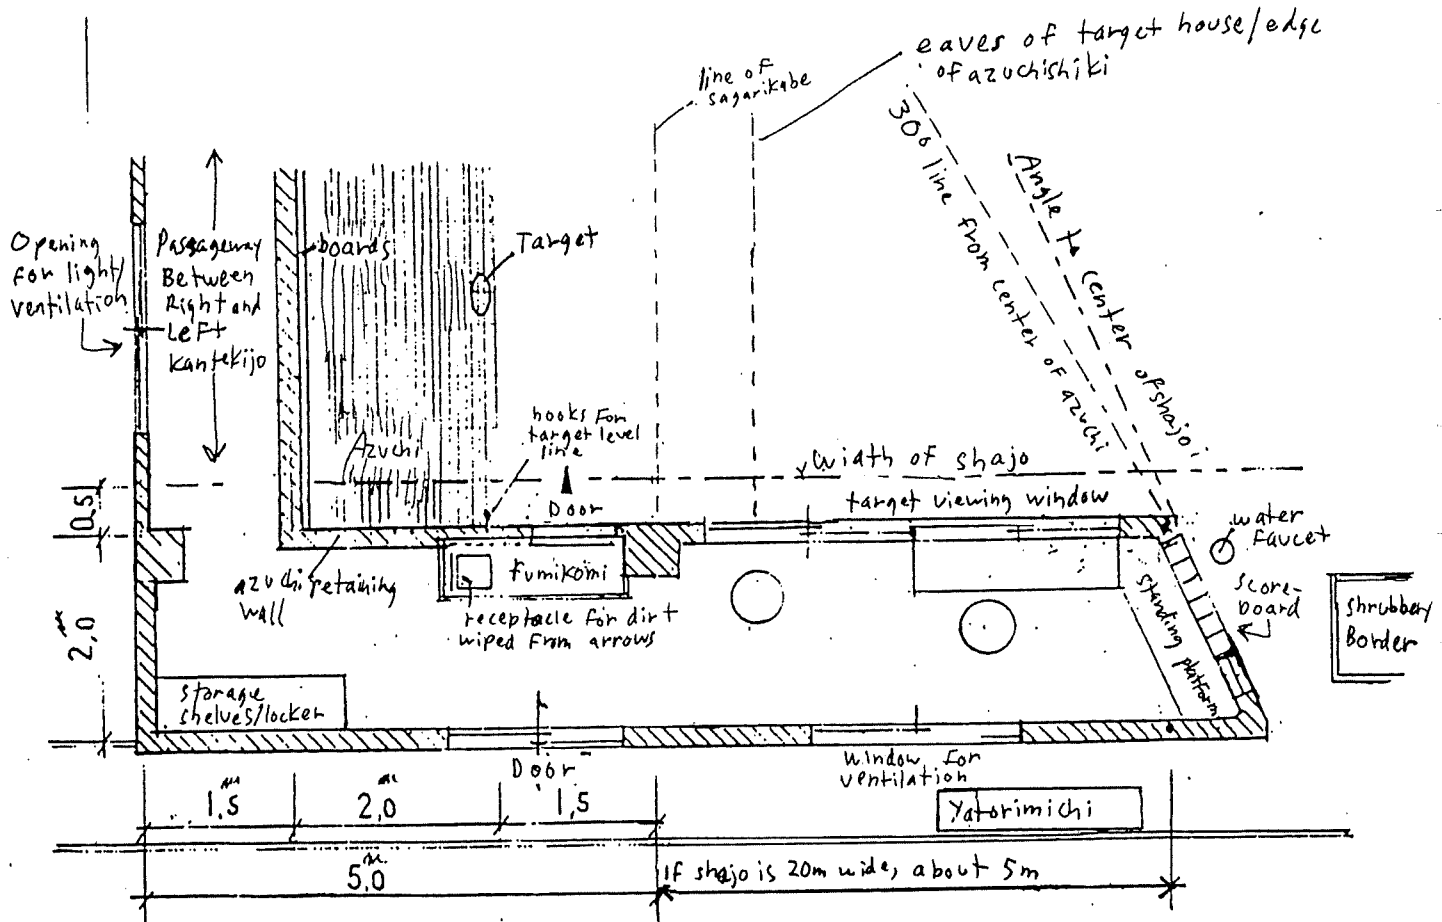

Figure 11 Cross Section Of The Azuchi And The Kantekijo
11. In order to properly place the targets at the same height, two hooks for stretching a level line should be affixed to the right and left retaining walls of the azuchi. When placing the targets, the level line is stretched from one wall of the azuchi to the other and the front edge of the upper part of the target frame is aligned with the level line. See Figure 11.